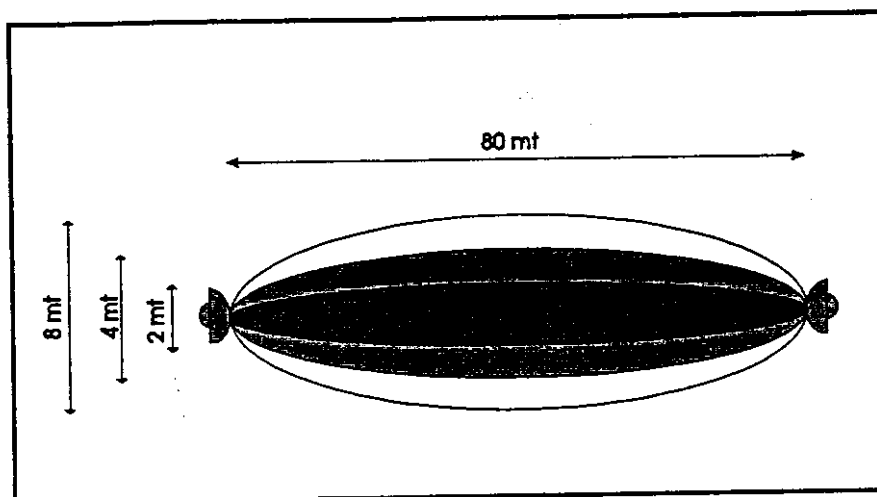

Figure 3 - Variation of the dimension of the sensitive zone on the variation of the sensitivity
- The level of sensitivity set up on the receiver, according to a particular antenna, ensures that the microwave barriers can have a sensitivity to more or less intense disturbance signals. Bear in mind that the weaker signals come from more peripheral zones of the field, while the more intense signals come from central zones. Thus it is clear that the regulation of the sensitivity provokes a corresponding variation of the height and breadth of the field of protection. The length, on the other hand, is determined exclusively by the distance between transmitter and receiver (FIG. 3).